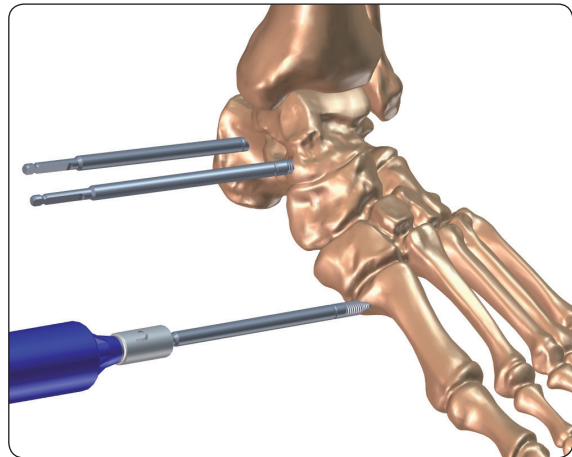
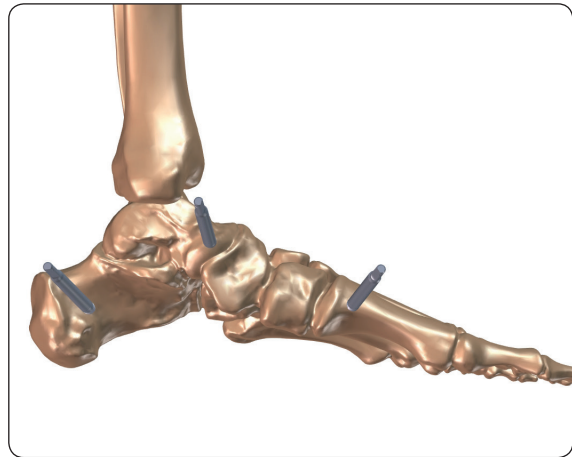

Fig. 9
Fig. 10
**WARNING:** The Soft Tissue Reference Line of the screw must not penetrate deeper than the skin surface. (Fig. 9 - Fig. 10)